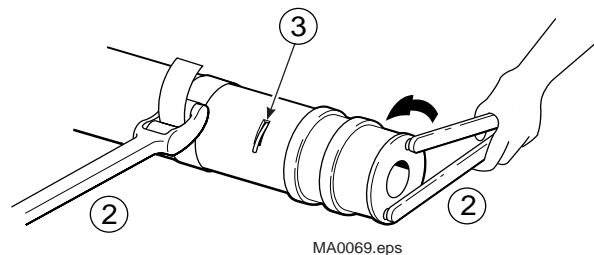

Figure 24. Piston Removal
2. Using a strap wrench and 400 grit emery cloth to secure the plunger while turning the piston with a pin type spanner wrench. See figure 24.